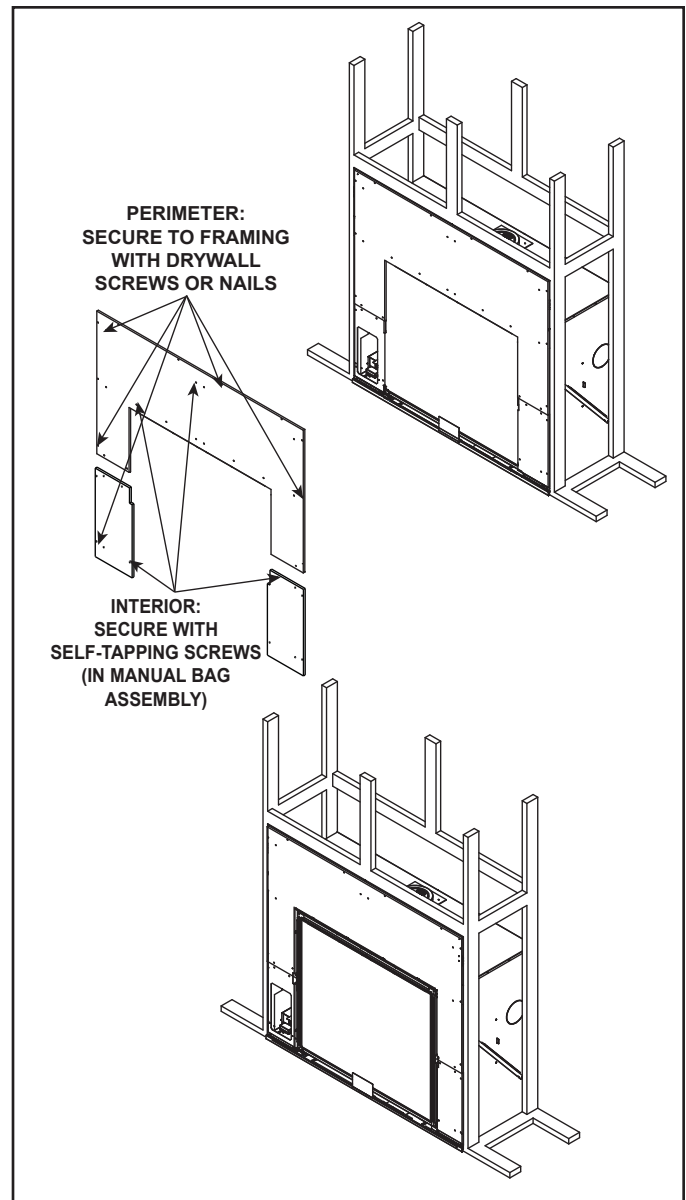

Figure 9.6 Installing Non-Combustible Facing Material
- Install lower left and right non-combustible legs and top non-combustible with screws supplied in the manual bag assembly. See Figure 9.6.
- Use fasteners from fastener packet (in manual bag) for screws that secure to the fireplace. See Figure 9.6.
- Use regular sheetrock screws or nails to secure the perimeter of the non-combustible facing materials to the wood framing. See Figure 9.6.